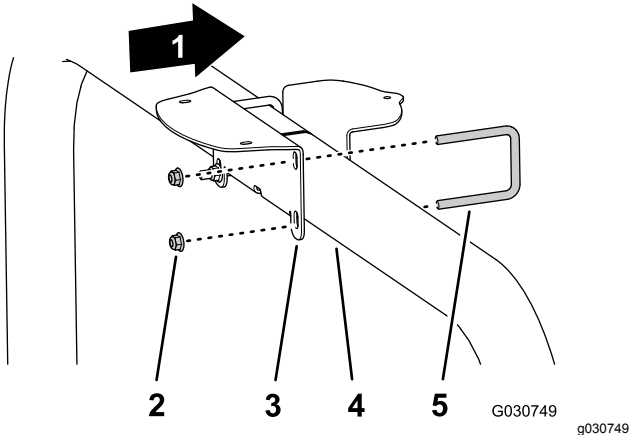

Figure 149
- If your machine is configured with global navigation satellite system (GNSS) with wide area augmentation system (WAAS), assemble the receiver mount to the ROPS tube (Figure 149) with the 2 U-bolts and 4 flange locknuts (3/8 inch).